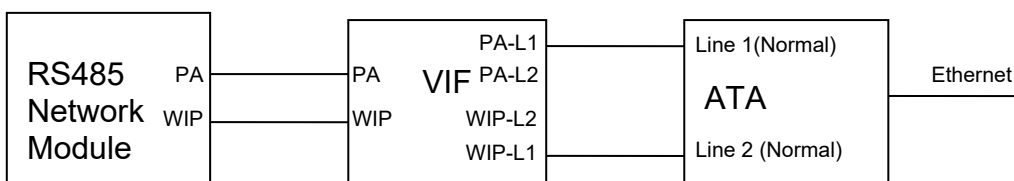
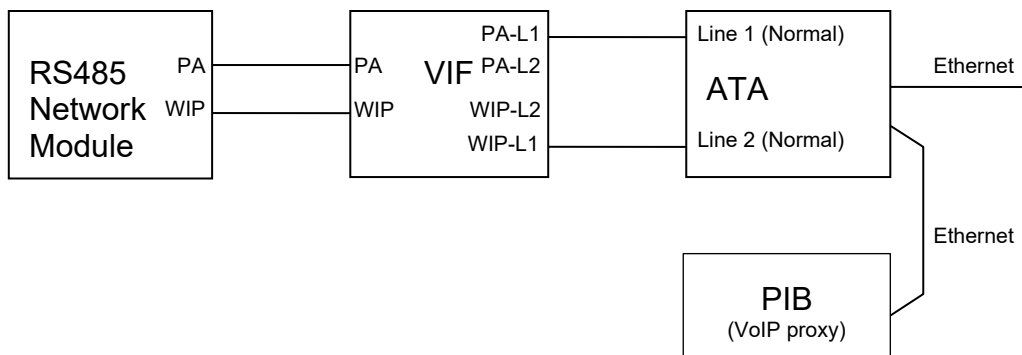
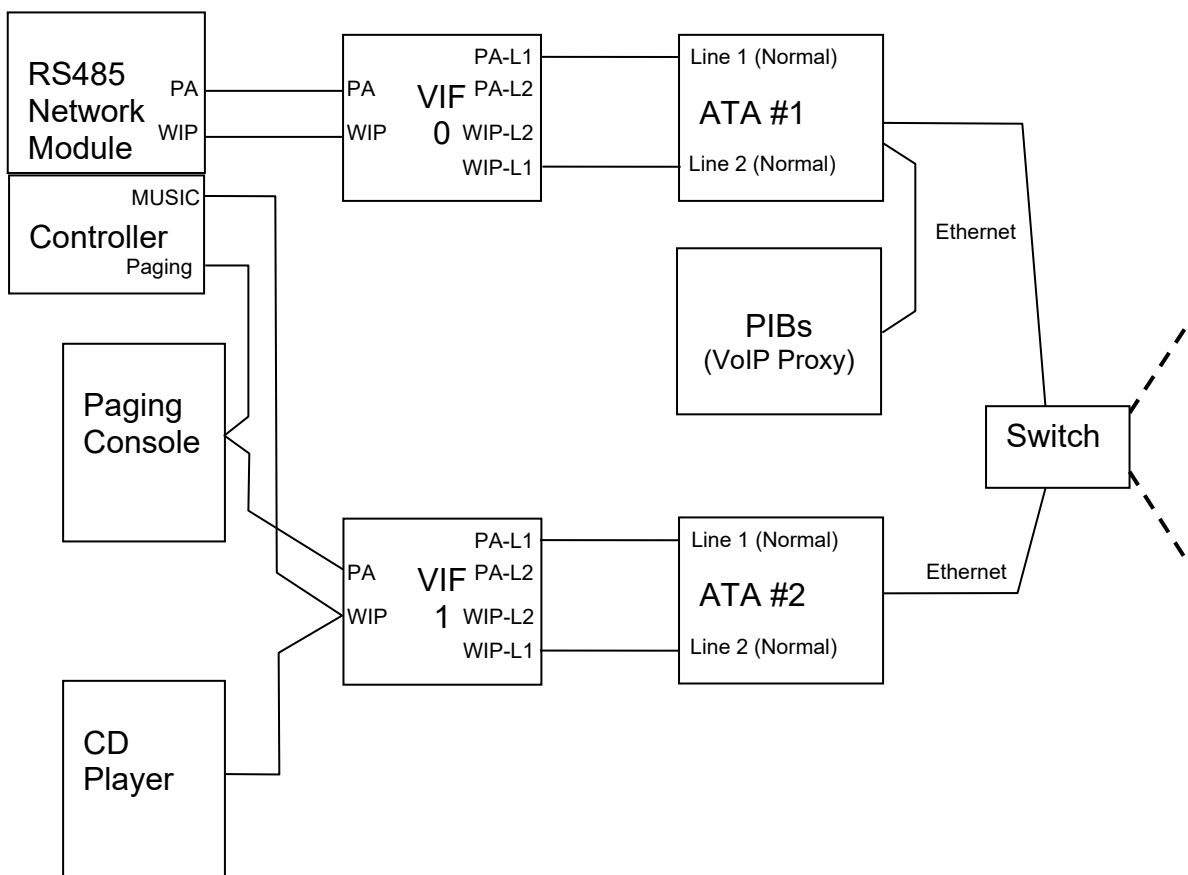

Figure 2 – 1 Line PA + 1 Line WIP
Figure 3 – 1 Line PA + 1 Line WIP + PIB VoIP Proxy
Figure 4 – PA In / Out, WIP In / Out including All-Call, Paging Console out, and Music out (using PIB VoIP Proxy)
See Figure 2, Figure 3, and Figure 4 for some example arrangements, and drawing 699-295 for generic wiring. Note the PIB for Panel-Link networking is not shown.
Figure 2 shows an example where one line is required for Speech (PA) and one line for WIP. The Speech line can be used for incoming Speech to amplifiers at this node and/or sending Speech to only one remote node. The WIP line can be used for 1 to 1 calls, receiving All-Call, or making All-Call to only one remote node. Speech and All-Call cannot be made to multiple nodes.
Figure 3 adds the PIB for the VoIP Proxy function so this QE20 can also send speech and / or WIP All-Call to multiple nodes.
Figure 4 shows an expansion to Figure 3 so that BGM (music) audio and / or paging console audio can be sent to or received from other QE20s.